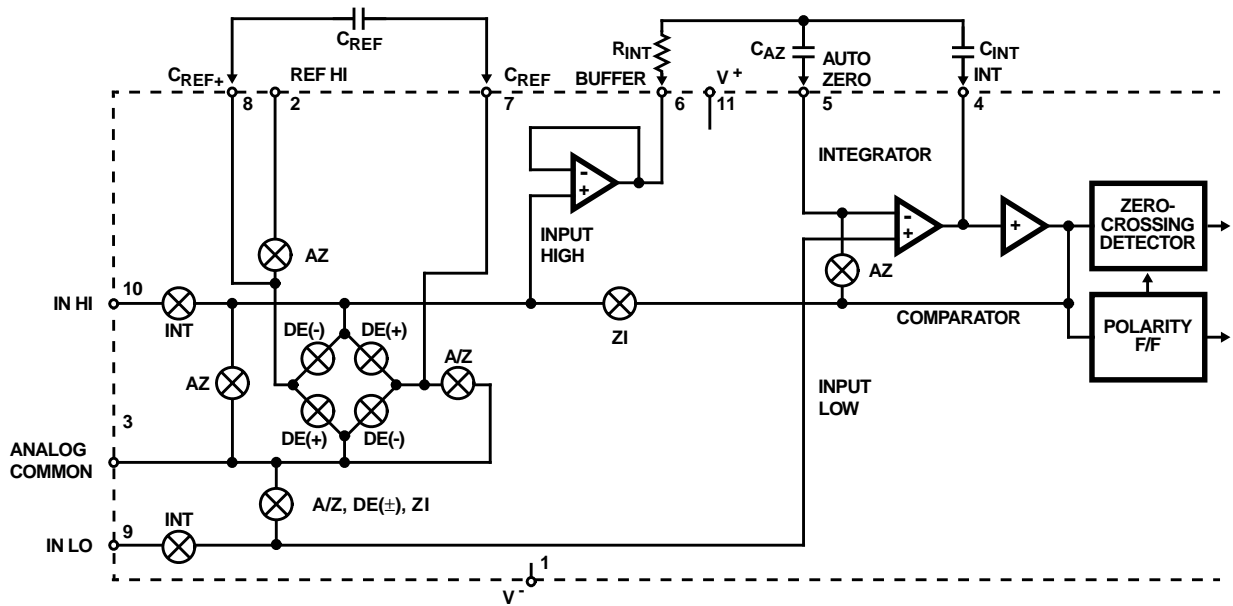

FIGURE 3. ANALOG SECTION OF ICL7135
3. Tested in 4¹/₂ digit (20.000 count) circuit shown in Figure 3. (Clock frequency 120kHz.)
Figure 3 shows the Block Diagram of the Analog Section for the ICL7135. Each measurement cycle is divided into four phases. They are (1) auto-zero (AZ), (2) signal-integrate (INT), (3) de-integrate (DE) and (4) zero-integrator (ZI).